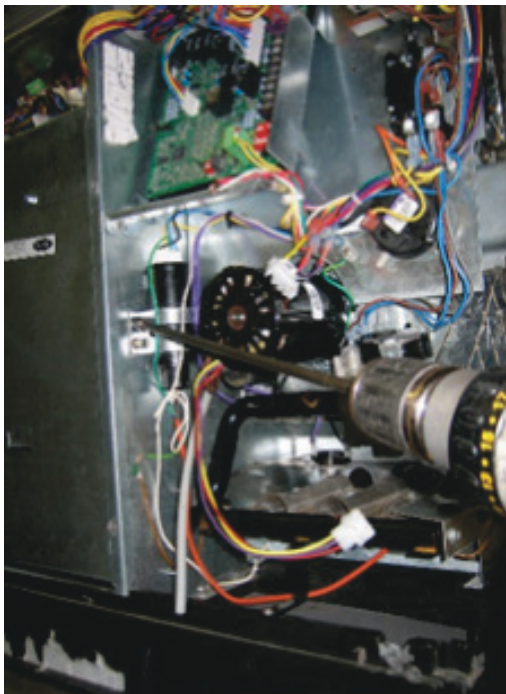

Fig. 29 – Removing Mounting Screw from Gas Manifold A210076
9. For all units remove mounting screw from gas manifold and pull Burner Assembly forward to clear Heat Shield (See Fig. 29).